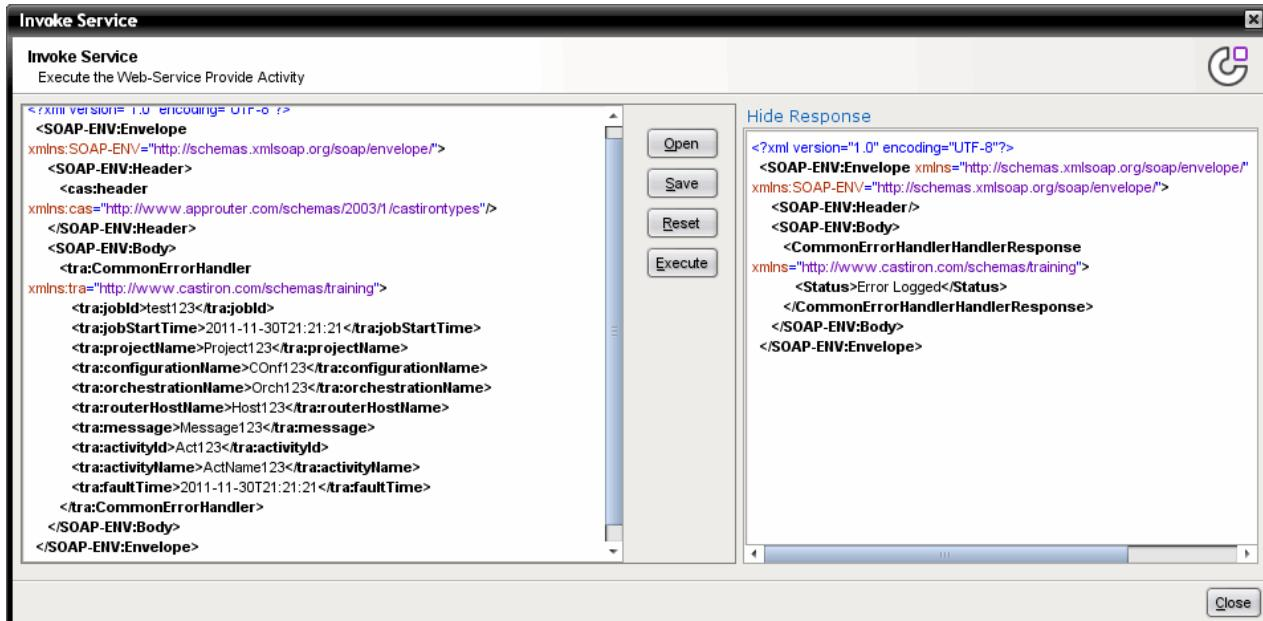

Figure 7-33 *Invoke Service* result
- c. View the results by clicking **Show Response**, as shown in Figure 7-33. Validate that the result is as expected.